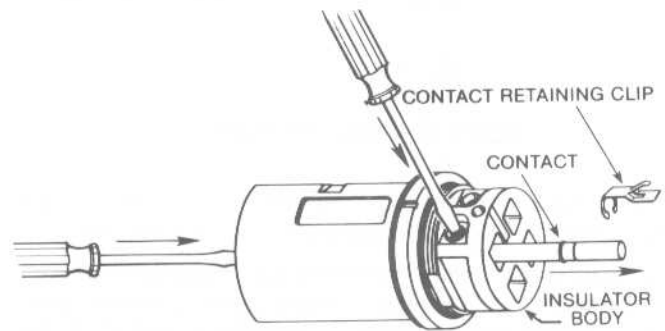

Figure 10. Contact Removal (Crimp or Solder Contacts)
1. Remove all contacts (except the grounding contact) from the plug sleeve in NPJ plugs that require crimp or solder contact terminations. To remove the contacts, insert a flat blade screwdriver into the contact recess, depressing the contact retaining clip. While depressing the retaining clip, push on the contact from the opposite end removing the contact. Remove retaining clips from contacts and retain for reassembly. See Figure 10.